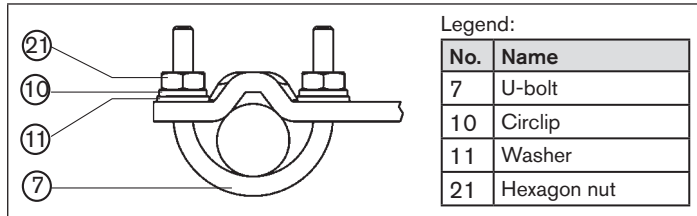

Fig. 11: Attach Type 8792/8793 with mounting bracket; for actuators with cast frame
- Attach mounting bracket to the columnar yoke with the U-bolt ⑦, washers ⑪, circlips ⑩ and hexagon nuts ②① (see „Fig. 11“).